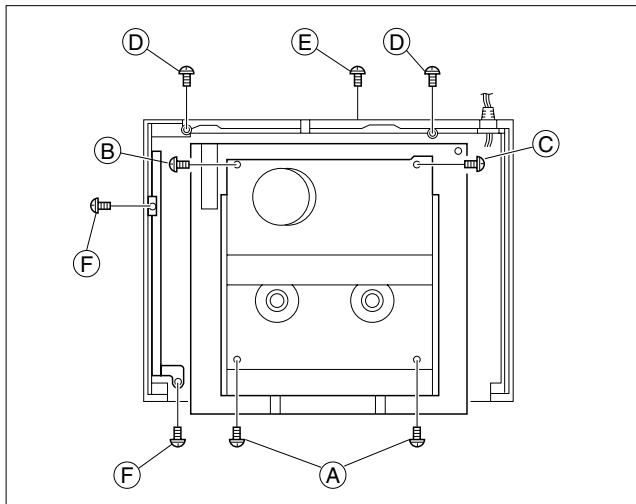

Fig. 1-4-1
- (1) Remove the Top cover, Bracket, Front panel assembly and Jack board assembly. (Refer to 1.3 DISASSEMBLY/ASSEMBLY METHOD.)
- (2) Lower the cassette holder, and make the preparations required in order to remove the screws from the Mechanism assembly. (Refer to the "Procedures for Lowering the Cassette holder assembly" on pages 1-2 of 1.3 DISASSEMBLY/ASSEMBLY METHOD.)
- (3) Take out 2 screws (A), 1 screw (B) and 1 screw (C) as shown in Fig. 1-4-1.
- (4) Remove the flat wires from CN3011 and CN902 on the Main board assembly.
- (5) Take out 2 screws (D) and 1 screw (E) as shown in Fig. 1-4-1.
- (6) Take out 2 screws (F) as shown in Fig. 1-4-1. Then remove the P/S Converter board assembly. (Refer to 1.3 DISASSEMBLY/ASSEMBLY METHOD.)